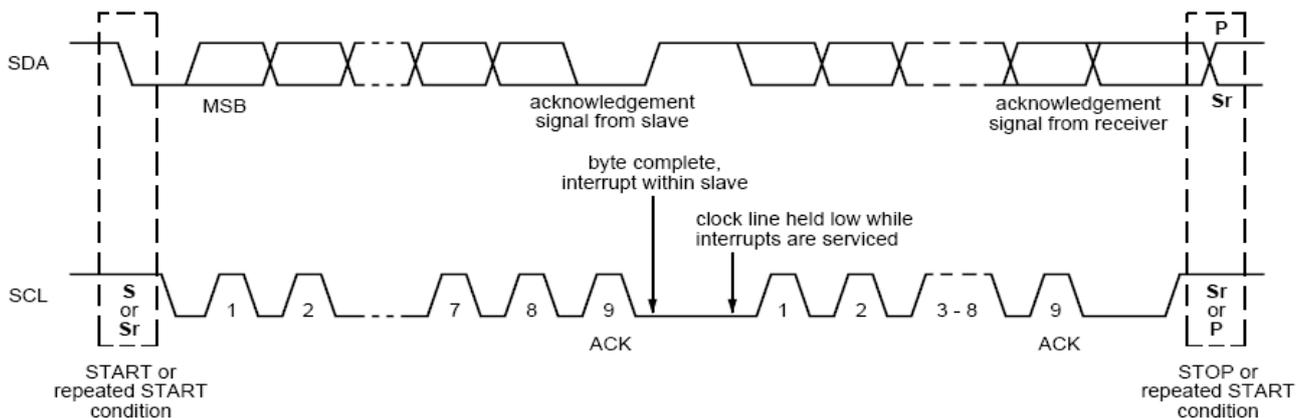

Fig. 14-1: Acknowledgement bit in the 9th bit of a byte transmission
**TxAk:** The Acknowledge status transmit bit. When received complete 8 bits data, this bit will set (NoAck) or clear (Ack) and transmit to master to indicate the receive status. Actually, it is sent as the 9th bit in one byte transmission as show in Fig. 14-1.